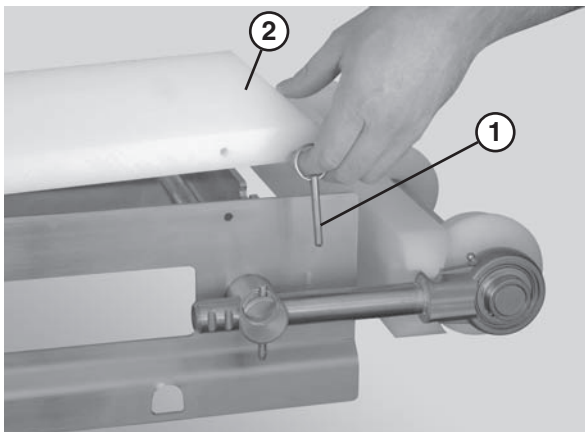

Figure 55
1. Remove the pull pins (**Figure 55, item 1**) that connect the guide (**Figure 55, item 2**) to the frame.